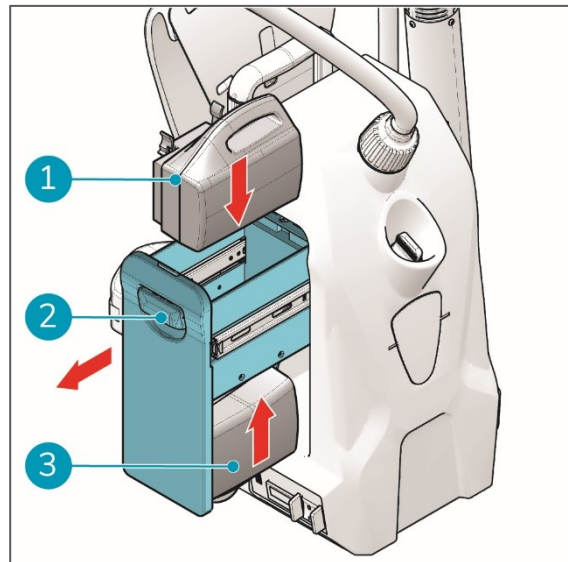

Figure 11
1. Open the battery holder (fig 11, pos 2) at the side of the i-gum®.
2. Put the blue coded battery in the blue battery slot at the top (fig 11, pos 1).
3. Put the gray coded battery in the gray battery slot at the bottom (fig 11, pos 3).
4. Close the battery holder (fig 11, pos 2).